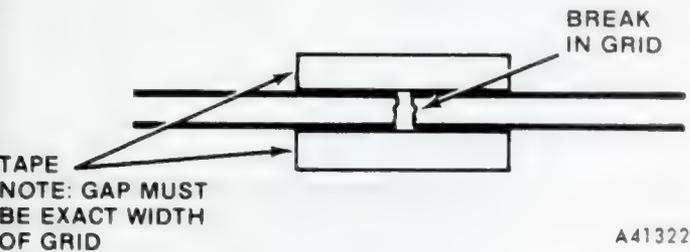

Fig. 3U-6 Rear Window Defogger Grid Repair
- (1) Using suitable marking pencil, mark location of broken or open grid on exterior surface of glass.
- (2) Using fine steel wool, lightly rub area to be repaired (inside of rear window). Clean area with alcohol.
- (3) Attach two strips of cellophane tape (inside of rear window) above and below break in grid (fig. 3U-6).